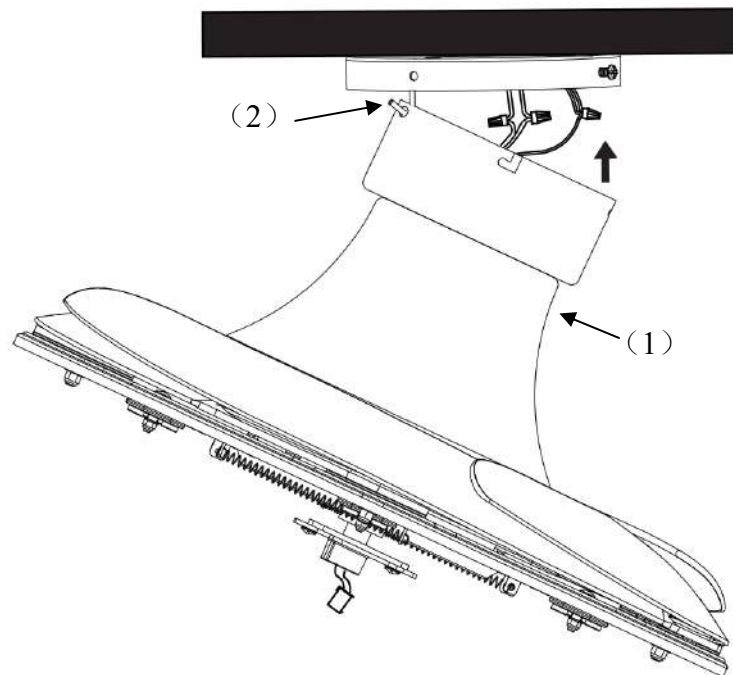

Fig. 6
- Lift the fan assembly (1) up to the mounting bracket. Hang the fan assembly onto the J-hook (2) of the mounting bracket. **(Fig.6)**